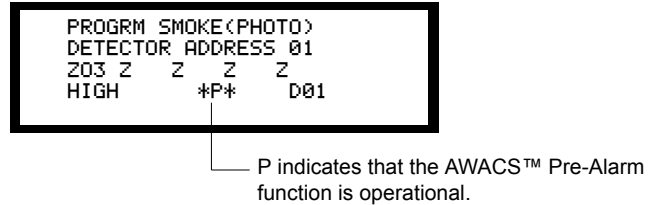

Figure 157 Point Programming Screen with Pre-Alarm Selected
3. Program each detector for which Pre-Alarm is desired. Figure 157 shows a sample screen for a detector selected for Pre-Alarm. For detailed information on point